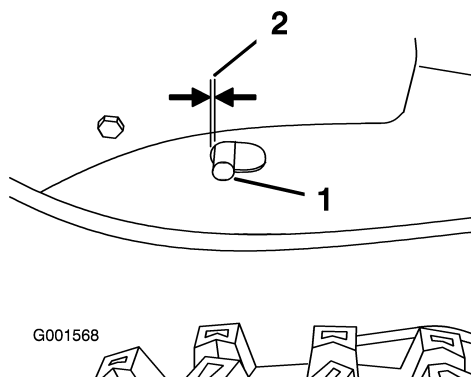

Figure 44
1.5 mm) from the front of the slot to the front edge of the pin (Figure 44).